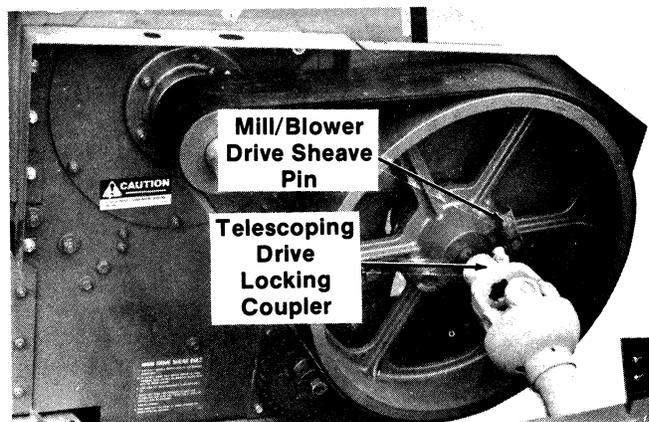
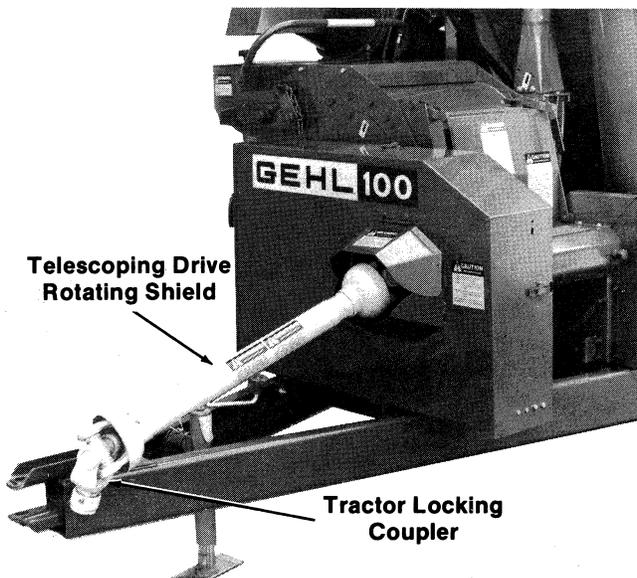

Fig. 5-9
Fig. 5-11
## MILL & BLOWER (Fig. 5-9)
**TELESCOPING DRIVE (Fig. 5-11 & See Fig. 5-9)**